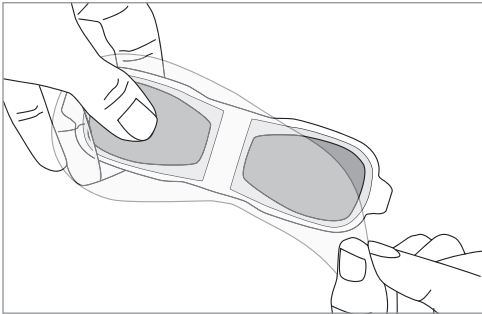

Figure 8-2: Remove the Gel Electrode liner.
1. Remove the liner and store it in the Electrode Carrying Case. See Figure 8-2. Do not bend the liner. Keep the liner clean and protected so it can be reused when the Gel Electrode is removed from the skin.